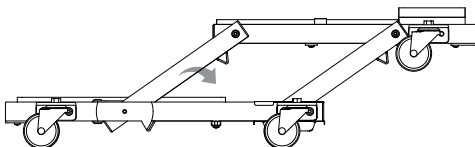

Figure 3- Creeper configuration
2. Unlock spring loaded Lock Clamp, then reverse steps 1, as shown in Fig. 3, to convert Creeper Seat into Creeper.